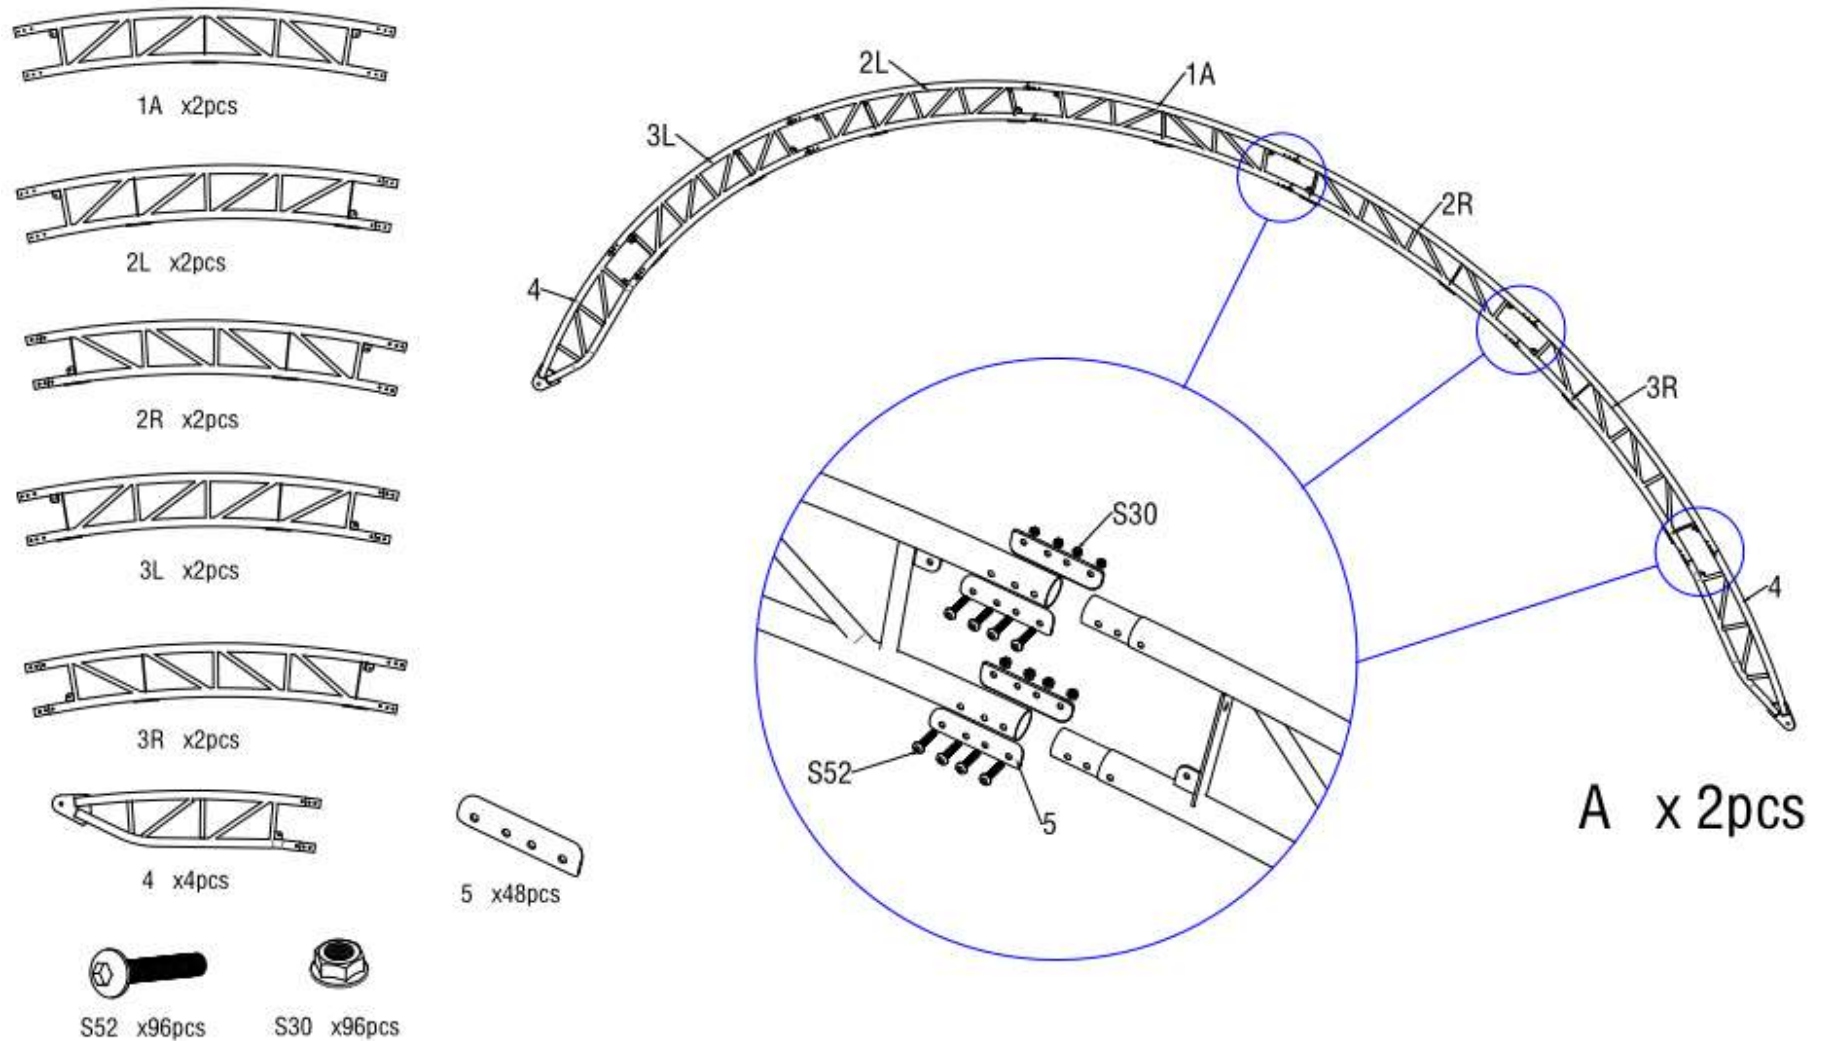

Figure 2
2.1 As Figure 2 shown to find one Middle Bent Tube, Lower Bent Tube and assemble these arches with Carriage bolt M10x90mm(Part no.S52) and Clamping Piece(Part no.5) to make the first arch group.